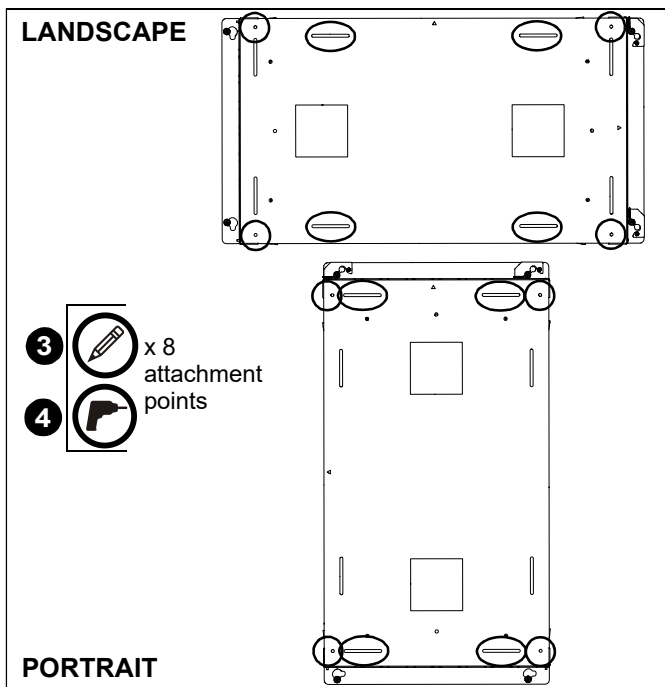

Figure 2
2. Level and adjust PSMO2168 making sure the corner holes and slots at upper and lower edges are properly positioned for either landscape or portrait installation. (See Figure 2)
3. Mark the location of eight mounting holes onto wall. The four corner hole locations must be used first. (See Figure 2)
4. Drill eight pilot holes at marked locations. (See Table 1) and (See Figure 2)